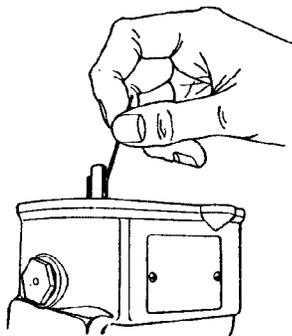

Figure 7.11.4
- G. Apply cam grease sparingly to each lobe of the cam. (See Figure 7.11.4).